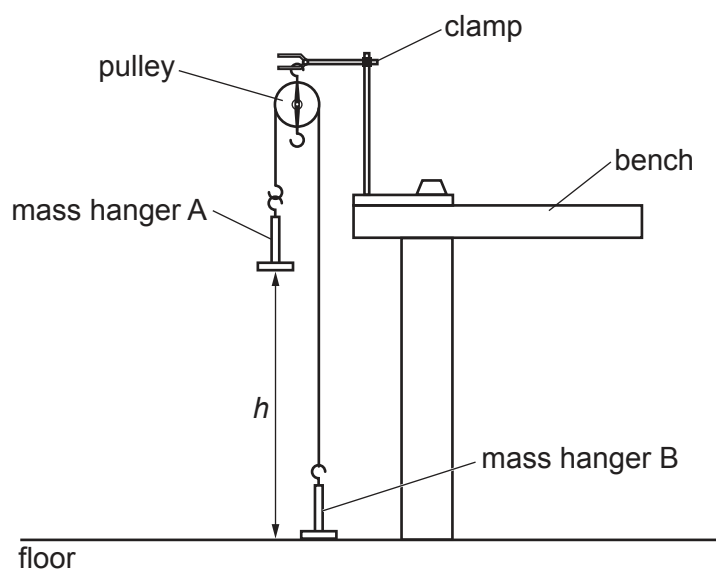

Fig. 3.1
1. A length of 2 mm diameter twine or string should be cut and loops tied at each end. The total length of the twine will be approximately 145 cm. With the mass hangers placed on the ends of the loops as shown in Fig. 3.1, the position of the clamp should be adjusted so that the base of mass hanger A is between 70 cm and 80 cm above the floor and mass hanger B is resting on the floor.
The supervisor must ensure that the apparatus is in the configuration shown in Fig. 3.1 with the piece of modelling clay or adhesive putty rolled into a ball on top of the piece of card and the position of the clamp on the stand lowered so that h is between 70 and 80 cm.